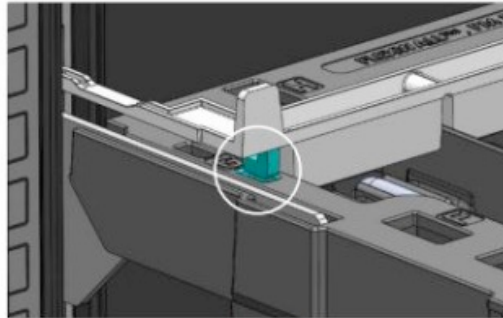

Figure 3
3. Seat the locking device down onto the tray surface once tabs are in correct position (See Figure 3).